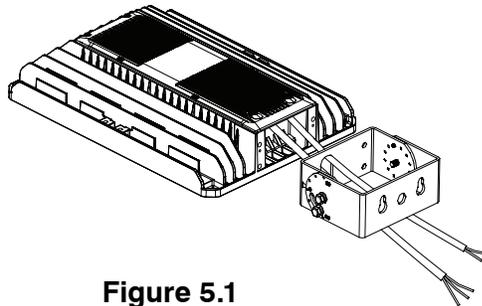

Figure 5.1
1. Put the input wire of the light through the bracket. (figure 5.1)